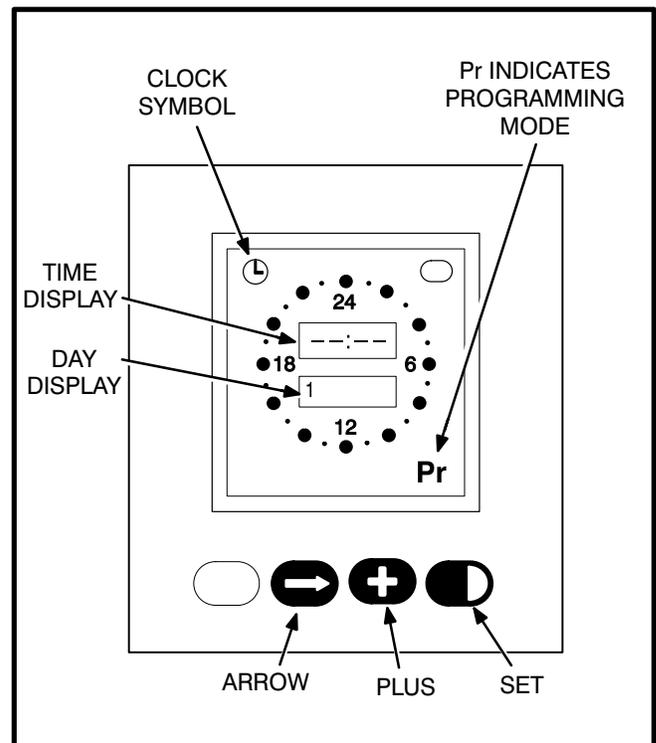

FIGURE 3-6. EXERCISER CLOCK
1. With the exerciser clock powered, press all three buttons simultaneously to reset the time. The time display area will show (— : —) and a small clock symbol will appear in the upper left corner of the display. Refer to Figure 3-6.